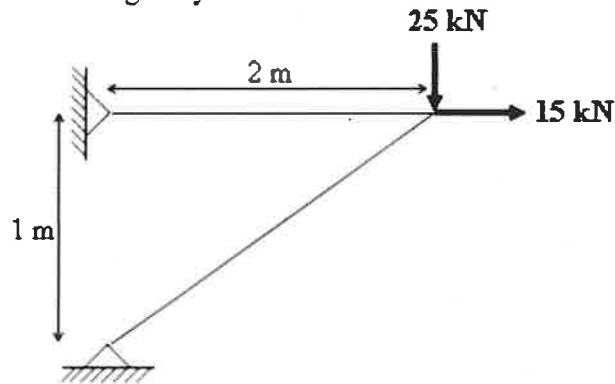

Fig. 6
14. B). Analyze the truss shown in Fig. 6 by stiffness method.